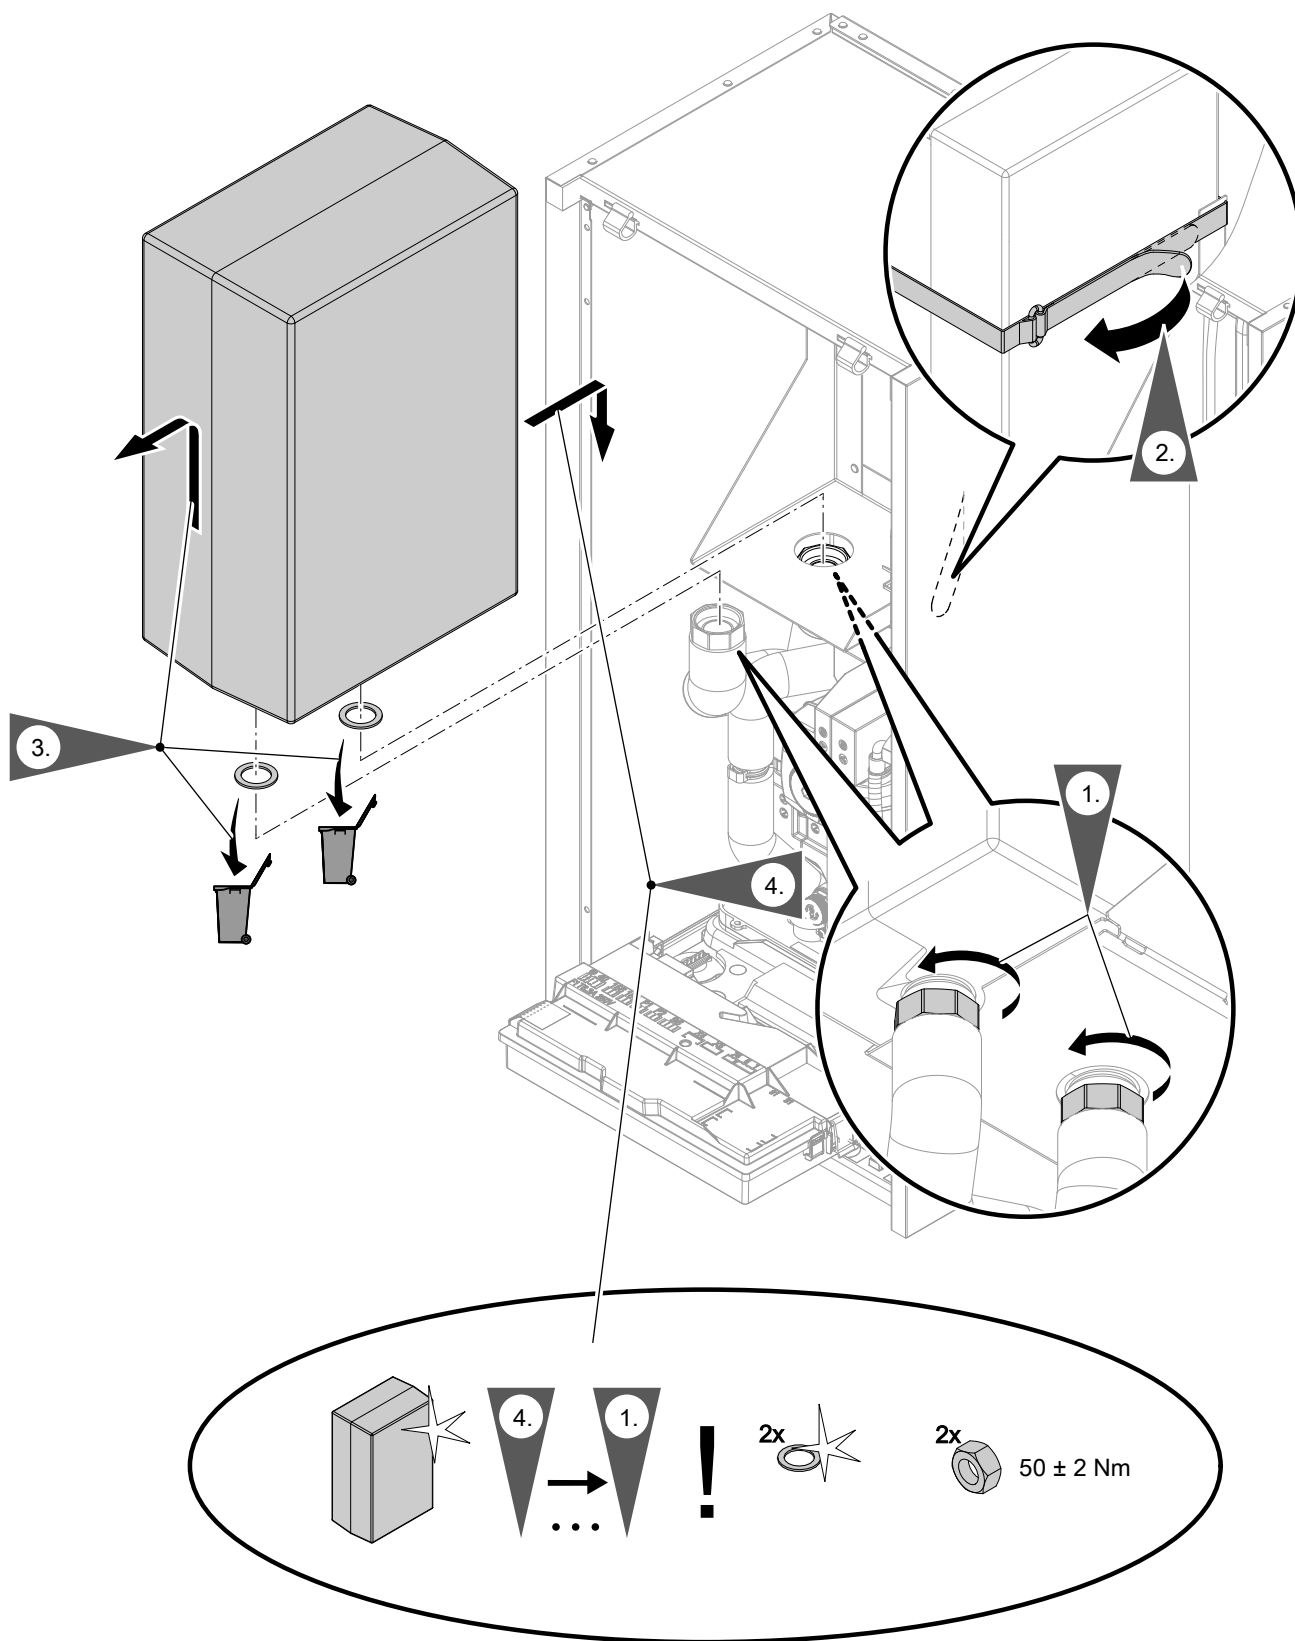

Fig. 82
- Integrated buffer cylinder: See Fig. 82.